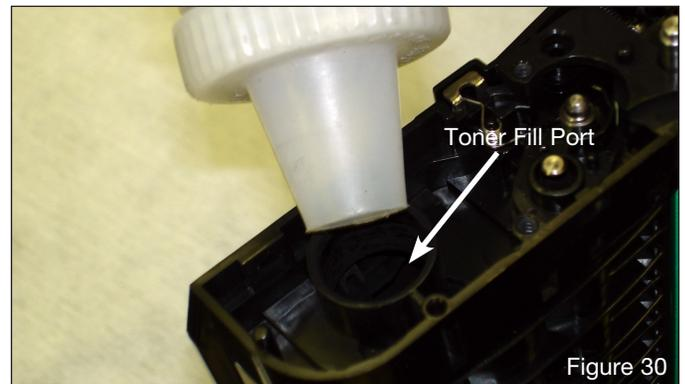

Figure 30
- Before attaching the contact side end plate pour the correct amount of toner into the toner fill port as shown in Figure 30.